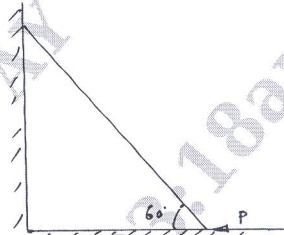

Fig.Q4(b)
b. A ladder 3m in length and weighing 200N is placed on a rough wall at an inclination of 60° as shown in Fig.Q4(b). The coefficient of friction between ladder and wall is 0.28 and between ladder and floor is 0.34. A man weighing 600N is to reach to the top of the ladder. Calculate the horizontal force to be applied at the floor level to prevent the ladder from slipping.